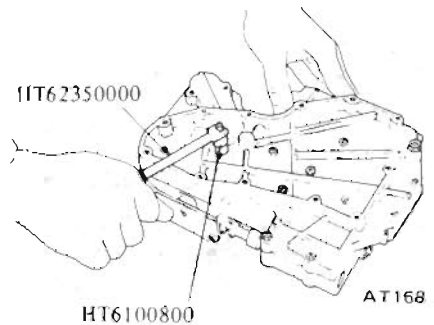

Fig. AT-101 Disassembling valve body
1. Remove bolts and nuts which retain oil strainer. Bolts may be removed with a screwdriver, but it is recommended that Hexagon Wrench HT61000800 and Spinner Handle HT62350000 be used. See Figure AT-101.